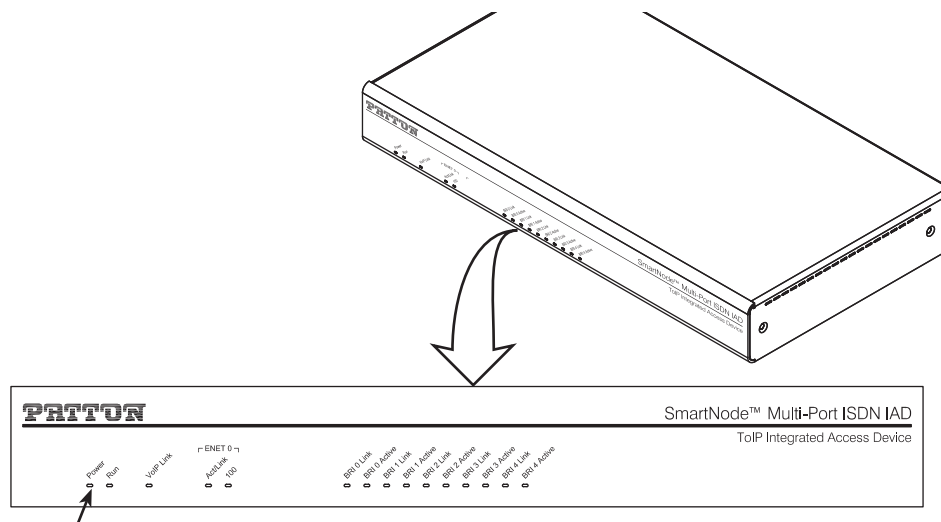

Figure 6. Power LED (SmartNode 4658 shown)
4. Verify that the green *Power* LED is lit (see figure 6).
5. Verify that the green *Power* LED is lit (see figure 6).